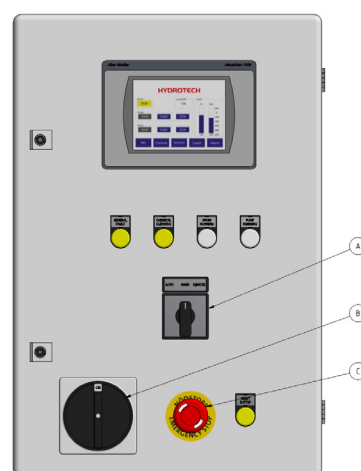

Figure 2.3 Elskåp
- ▶ Before carrying out maintenance work, the main power switch (see Figure 2.3) must be turned to the OFF (0) position and locked with a padlock.
The filter is equipped with an emergency stop and a main switch, see Figure 2.3.